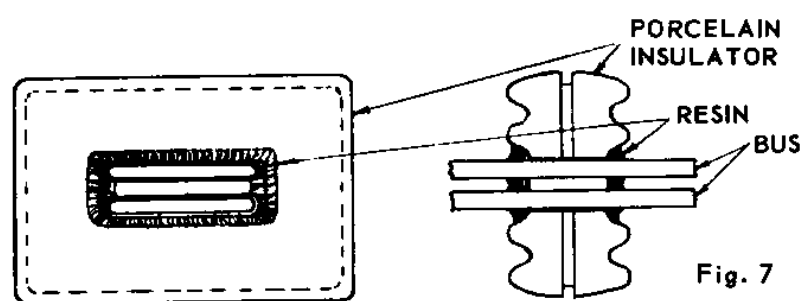

Fig. 7
Molded polyvinyl boots are used to insulate bus joints of 13.8-kv switchgear. (Figure 7.)
Fig. 7 — Molded polyvinyl boots are used to insulate bus joints of 13.8-kv switchgear. Molded boot is placed over bus joint (1, 2) and then (3) secured over bolted bus joint with vinyl tape.